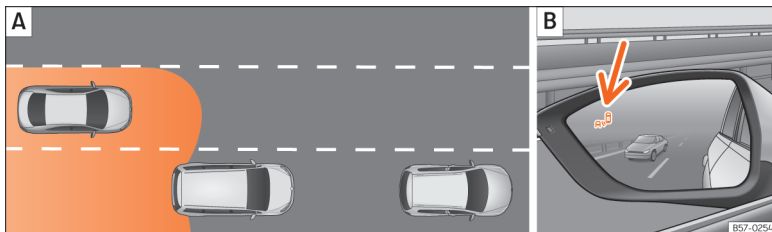

Fig. 275 Schematic diagram: **A** Passing situation with traffic behind the vehicle. **B** Indication from the blind spot detector in the left-hand external mirror.
The radar sensors are located on the left and right of the bumper and are not visible from the outside »» **Fig. 274**. The sensors monitor both the blind spot and traffic behind the vehicle »» **Fig. 275**, »» **Fig. 276**. The range to the sides of the vehicle is a bit larger than the width of a lane.
In the following situations, an indication will be displayed in the external mirror »» **Fig. 275** **B** [arrow] or »» **Fig. 276** **B** [arrow]:
- When being overtaken by another vehicle »» **Fig. 275** **A**.